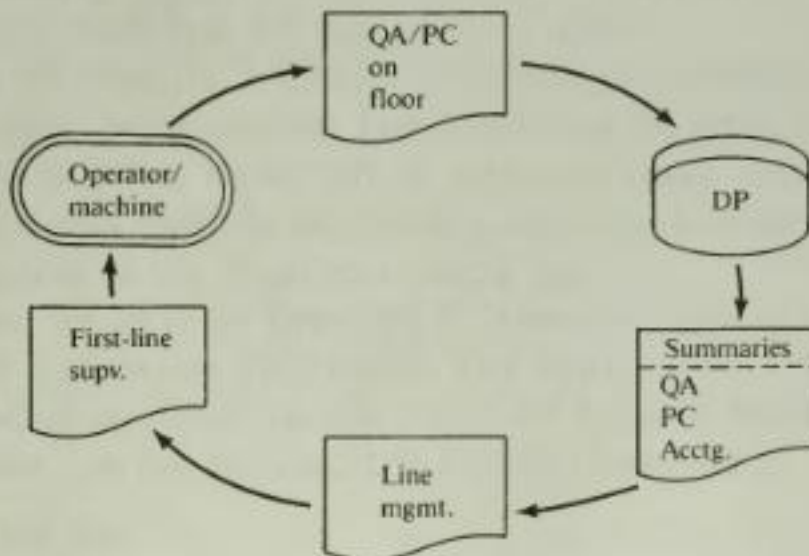

Figure 10-4. Control Loop—Conventional
Figure 10-4 shows the loop schematically. The double-bordered geometric is the source of data: the operator and the machine. Quality assurance (QA) and production control (PC) people on the floor check the source data against their standards. Their findings go onto check sheets or directly into computer memory. Summarized results are available to QA, PC, and accounting. They sift the data and send variance reports to line management in the factory. The onus is on the first-line supervisor to take corrective action. The loop is closed when the operator and machine are adjusted.